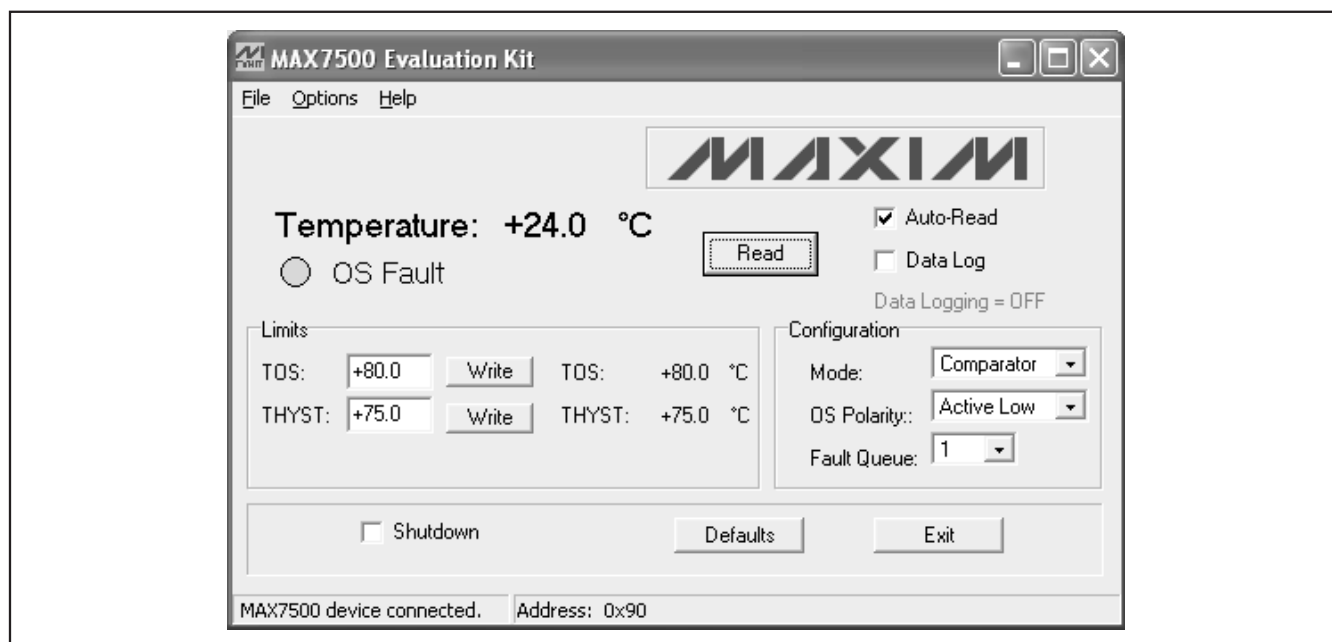
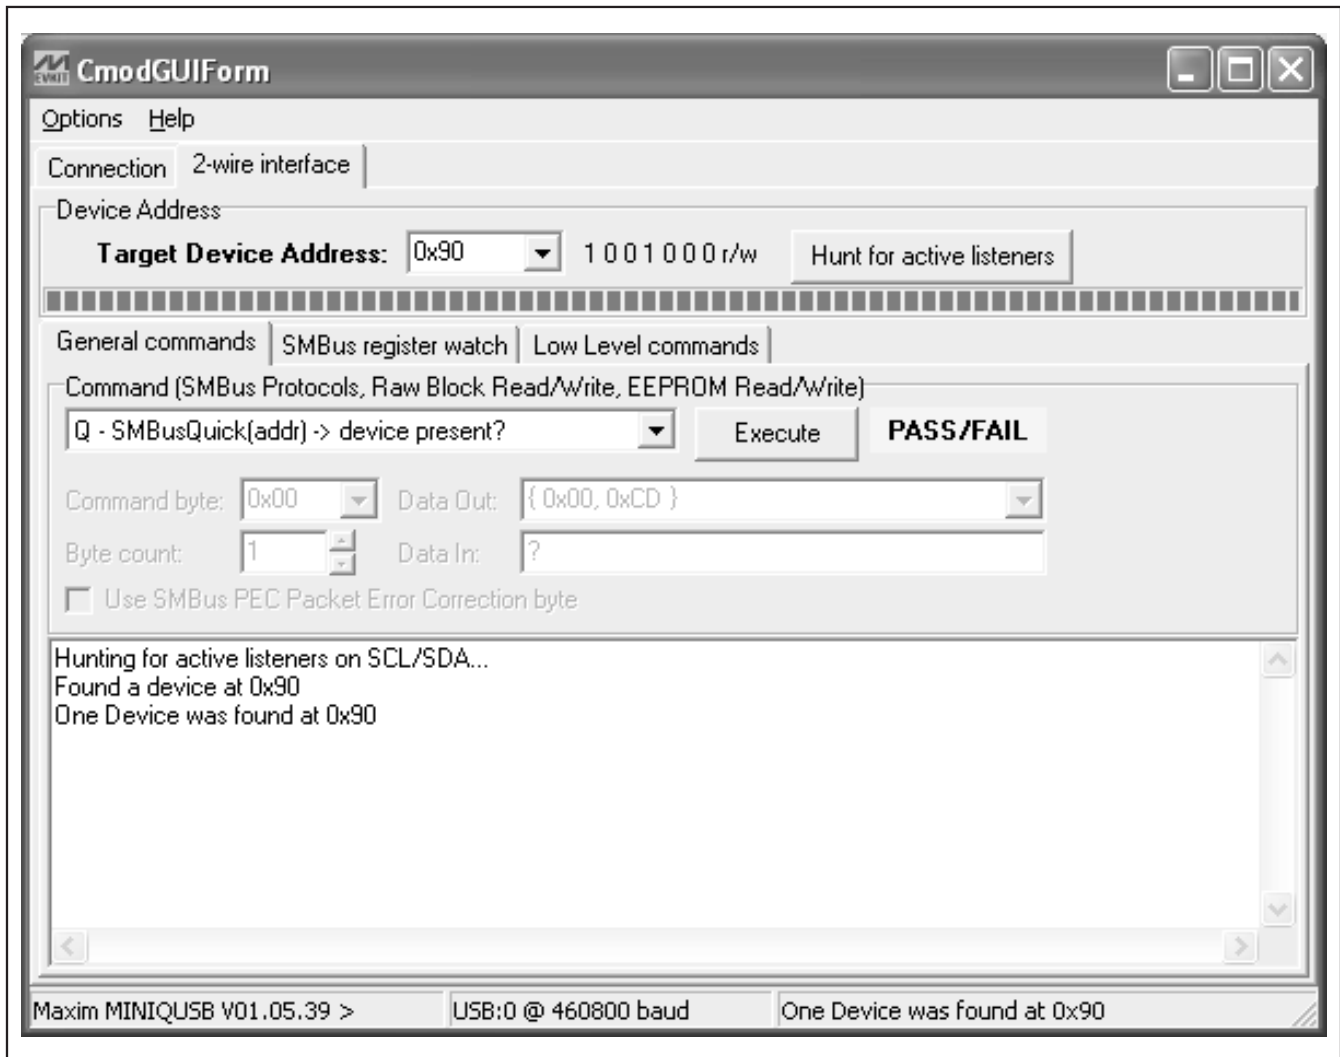

Figure 1. MAX7500 EV Kit Software Main Window
Figure 2. Command Module Interface Window
- 8) Normal device operation is verified when **MAX7500 device connected** is displayed in the bottom-left status bar on the MAX7500 EV kit main window (Figure 1).
The MAX7500 EV kit software accurately reads temperature data with a 0.5°C resolution, sets the upper and lower temperature threshold limits, and configures the behavior of the open-drain overtemperature shutdown (OS) output. The MAX7500 supports eight different I²C slave addresses; configure JU2, JU3, and JU4 to select between different addresses. Check the **Shutdown** checkbox (Figure 1) to shut down the MAX7500 internal blocks. By pressing the **Defaults** button, the device is restored to its power-on-reset (POR) state. Refer to the MAX7500–MAX7504 IC data sheet for further details.
Temperature data is displayed on the software main window (Figure 1). To read temperature, press the **Read** button and the sensor temperature is displayed on the software interface with a 0.5°C resolution. The **Auto-Read** checkbox is provided to continuously read and display the temperature and limit registers' data when checked.
There are two methods for communicating with the MAX7500, through the MAX7500 EV kit software main window (Figure 1), or through the interface window available by selecting the **Options | Interface Diagnostic Window** menu item from the menu bar. The Maxim command module interface window (Figure 2) includes a **2-wire interface** tab that allows for execution of the frequently used commands.